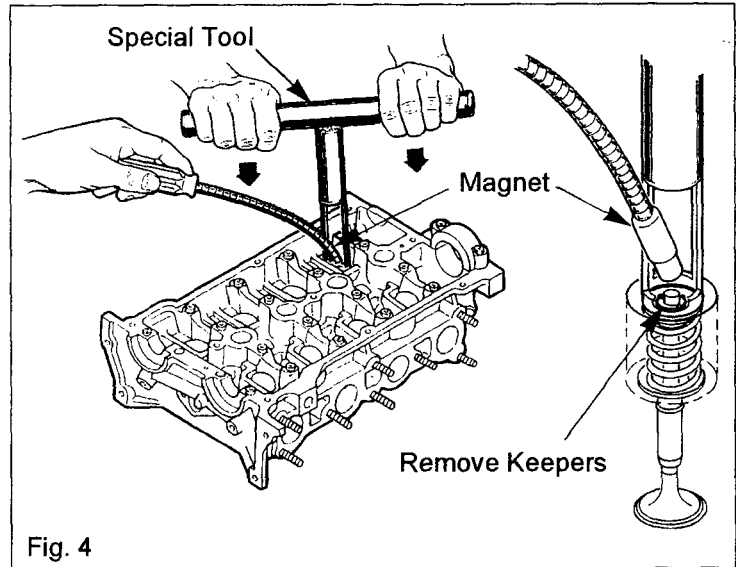

Fig. 4
4. Remove the valve keeper using a magnet and remove the upper seat. (Two persons are required). Refer to Fig. 4